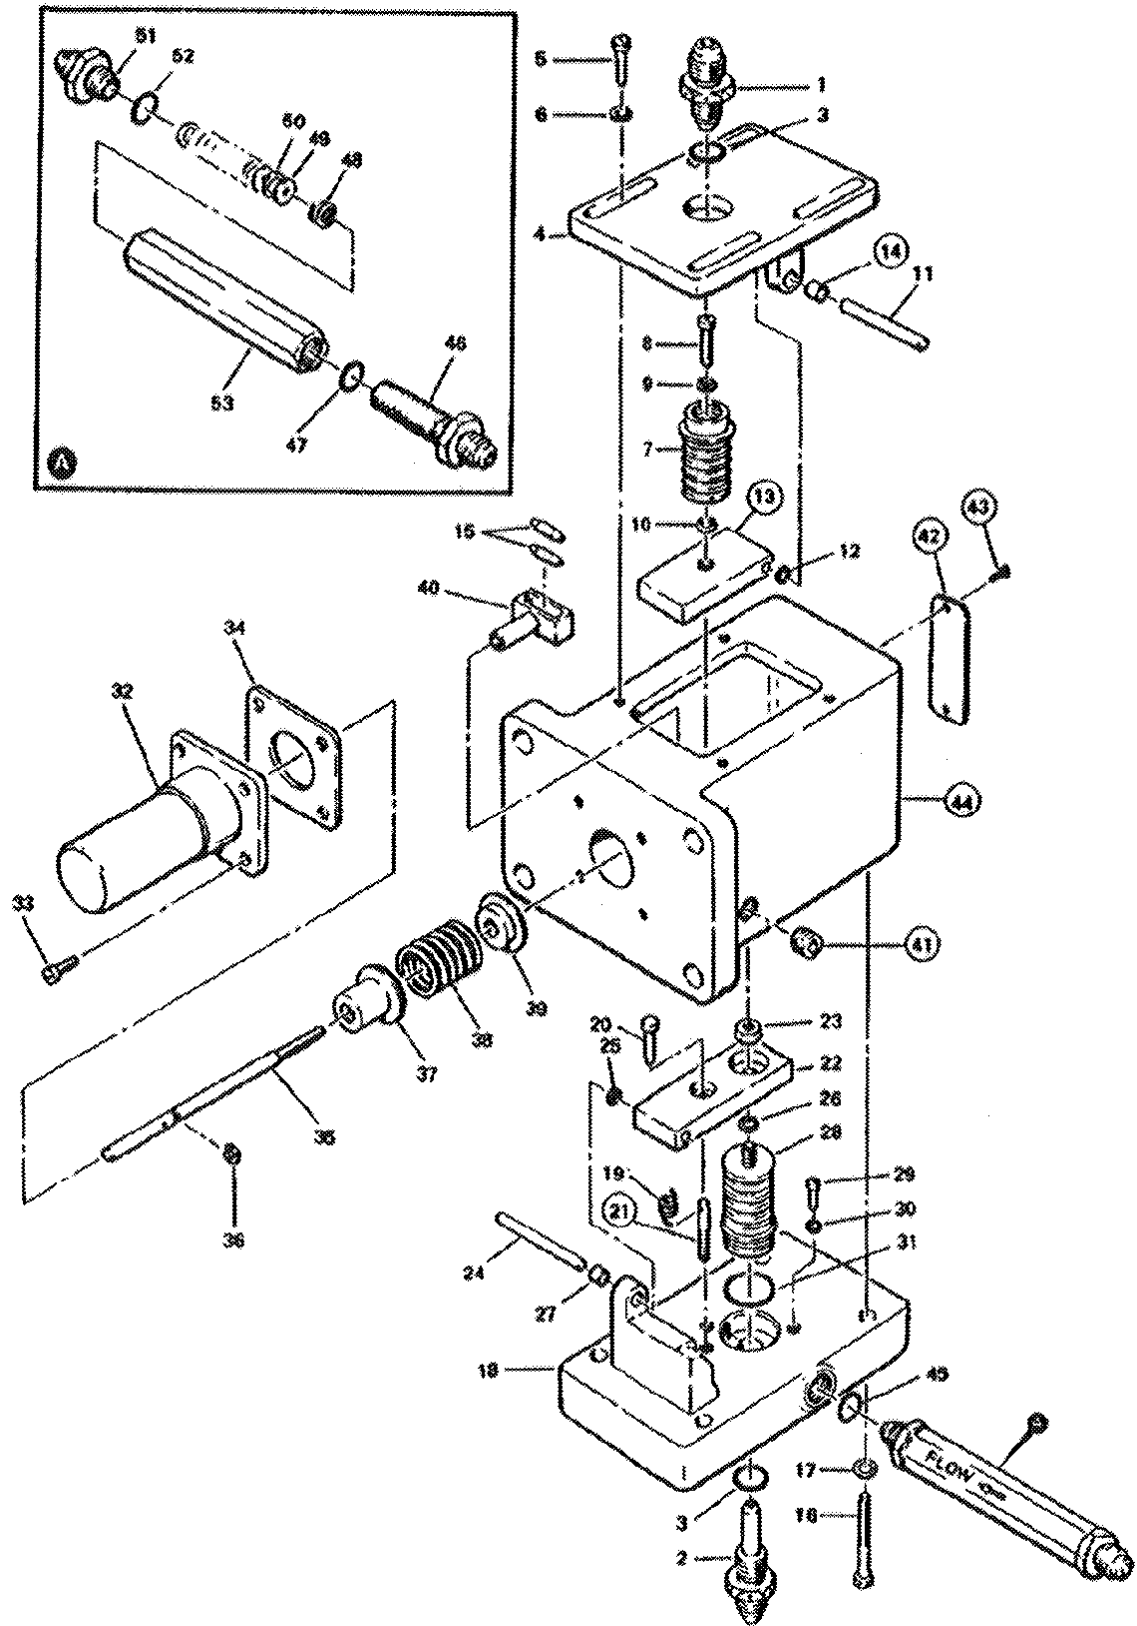

Figure 4-1. Exploded View of CDP Sensor Assembly
- Part reference number, as given in parts list and on Figure 4-1, and part name or description
Figure 4-1 illustrates and lists all parts for the CDP sensor assembly. Index numbers are assigned in disassembly sequence. Circled index numbers indicates items which do not require further disassembly unless repair or replacement of the part is required.